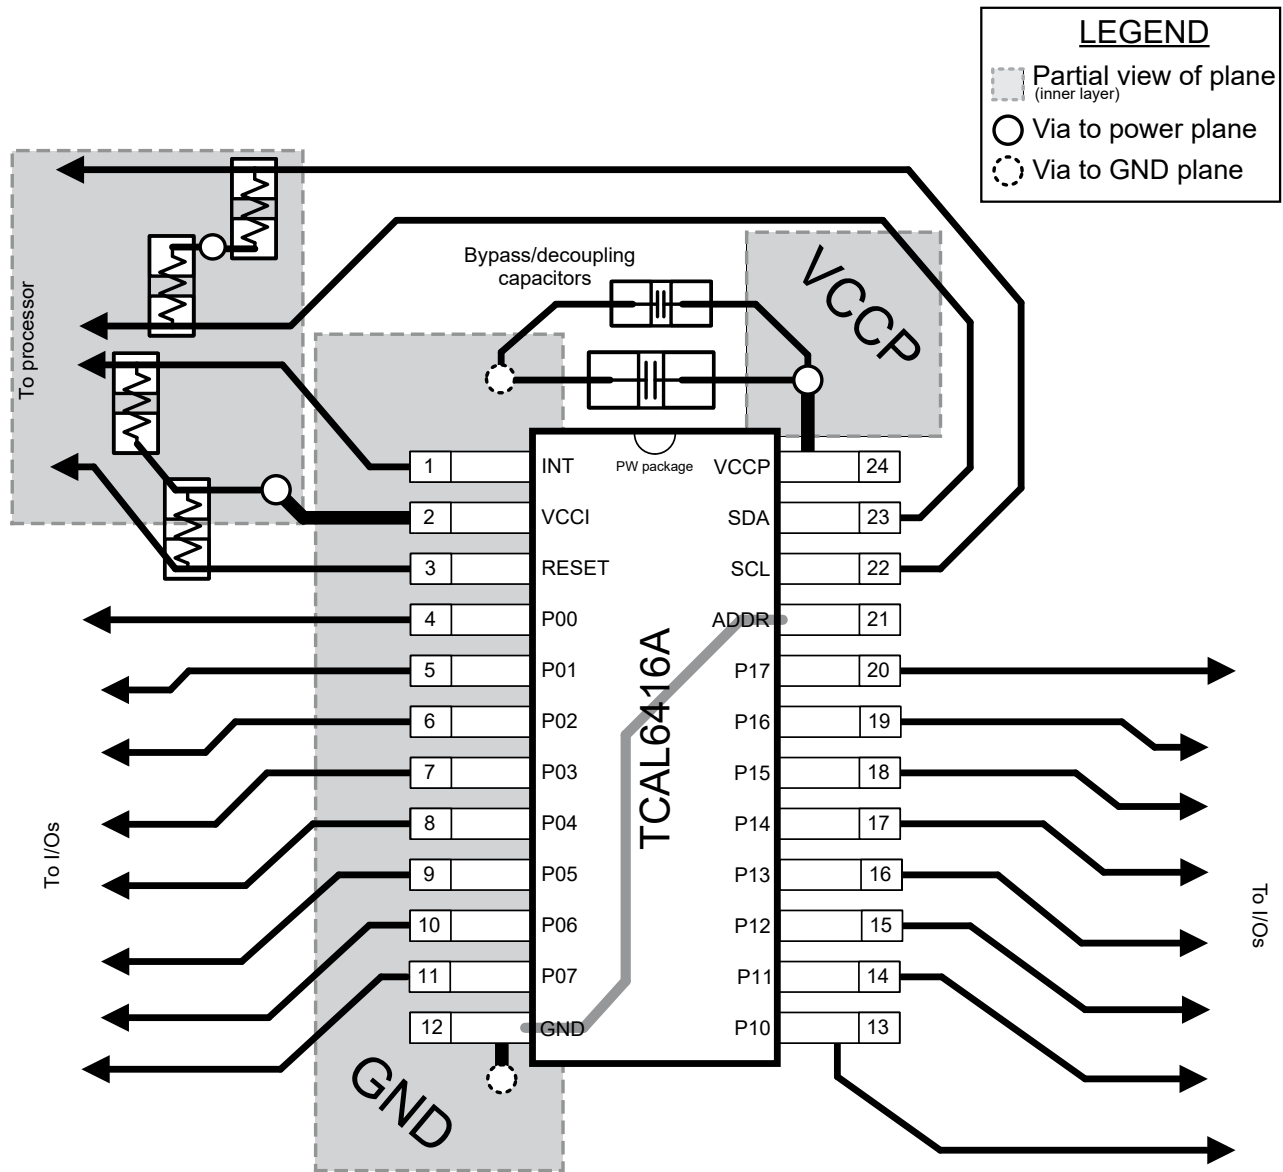

Figure 9-10. TCAL6416 Layout
In all PCB layouts, it is a best practice to avoid right angles in signal traces, to fan out signal traces away from each other upon leaving the vicinity of an integrated circuit (IC), and to use thicker trace widths to carry higher amounts of current that commonly pass through power and ground traces. By-pass and decoupling capacitors are commonly used to control the voltage on the supply pins, using a larger capacitor to provide additional power in the event of a short power supply glitch and a smaller capacitor to filter out high-frequency ripple. These capacitors should be placed as close to the TCAL6416 as possible. These best practices are shown in Figure 9-10.
For the layout example provided in Figure 9-10, it is possible to fabricate a PCB with only 2 layers by using the top layer for signal routing and the bottom layer as a split plane for power and ground (GND). However, a 4 layer board is preferable for boards with higher density signal routing. On a 4 layer PCB, it is common to route signals on the top and bottom layer, dedicate one internal layer to a ground plane, and dedicate the other internal layer to a power plane. In a board layout using planes or split planes for power and ground, vias are placed directly next to the surface mount component pad which needs to attach to power or GND and the via is connected electrically to the internal layer or the other side of the board. Vias are also used when a signal trace needs to be routed to the opposite side of the board, but this technique is not demonstrated in Figure 9-10.